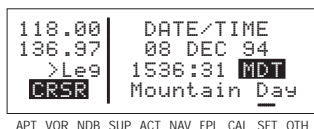

Figure 3-164
- Change the time zone with the right inner knob, if desired (figure 3-164). A listing of the time zones and their abbreviations is contained in section 3.2, "Turn-on and Self Test".